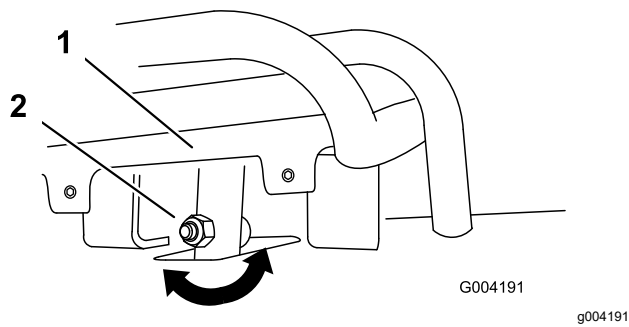
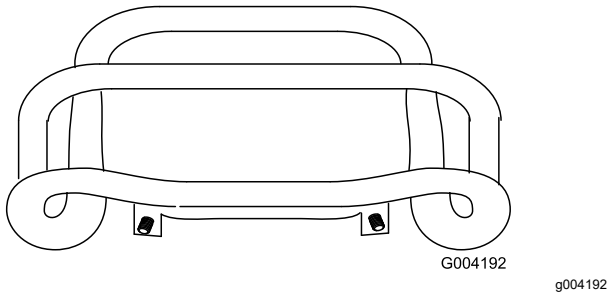

Figure 55
Figure 56
4. If the front of the traction control does not rest square and flush with the reference bar, loosen the nut and bolt in the stem of the traction control (Figure 55).
5. Adjust the traction control so that it rests flush against the reference bar when it is pulled straight back (Figure 55 and Figure 56).
- Loosen the flange nut and bolt in the stem of the traction control (Figure 55).
- Adjust the traction control so that it rests flush against the reference bar when it is pulled straight back (Figure 55 and Figure 56).